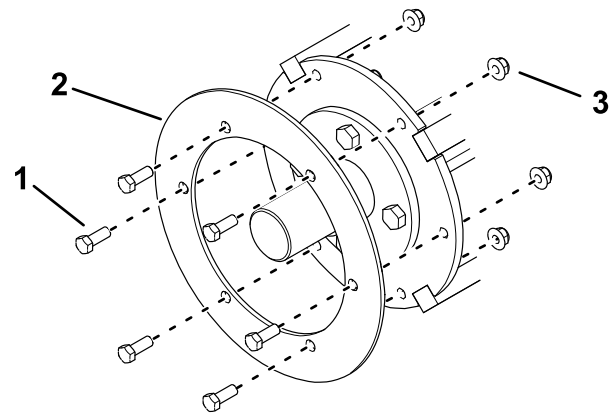

Figure 13
- Locknut—1/2 inch (4)
- Spring washer (4)
- Bolt—1/2 x 1-1/4 inch (4)
- Remove the 6 bolts, 6 nuts, and the retaining plate (Figure 13).
3. Install the retaining plate (Figure 13).